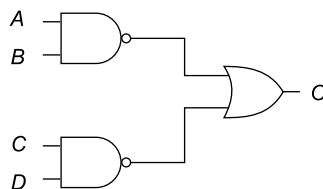

Fig. 6.30 Logic circuit of Ex. 6.20
6.20 Write the truth table of the logic circuit as shown in Fig. 6.30.
Table 6.28 Truth table for Fig. 6.30